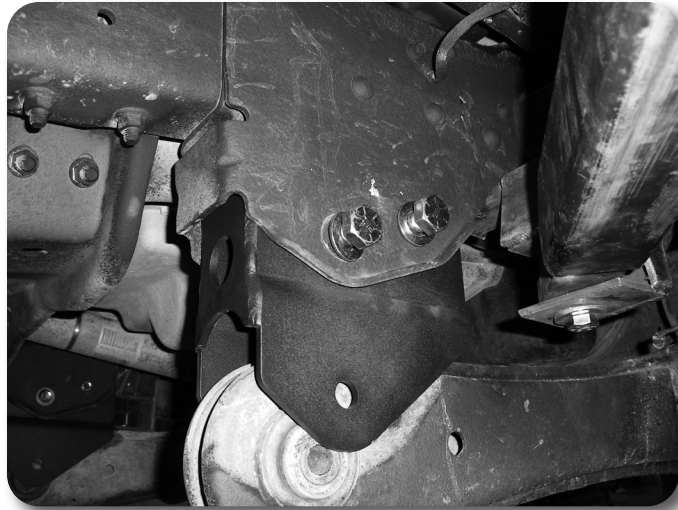

Figure 12
25. Install the new provided radius arm bracket into the factory frame bracket. Align the hole in the bracket with the factory mount holes and install 3/4" x 5" bolts, nuts and washers in the holes. **Figure 12** With both bolts installed, torque hardware to 250 ft-lbs.